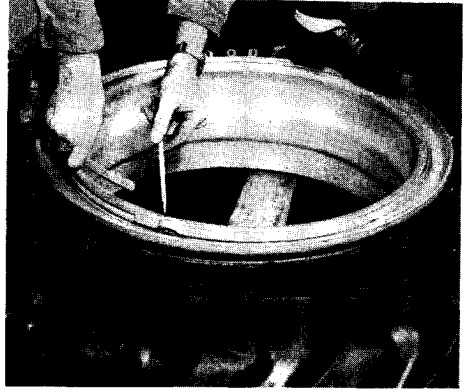

Figure 104
4. Stand on the flange using your body weight to depress the flange below the two grooves in the rim base, Figure 104.
5. Snap the lock ring into the upper groove, Figure 104.